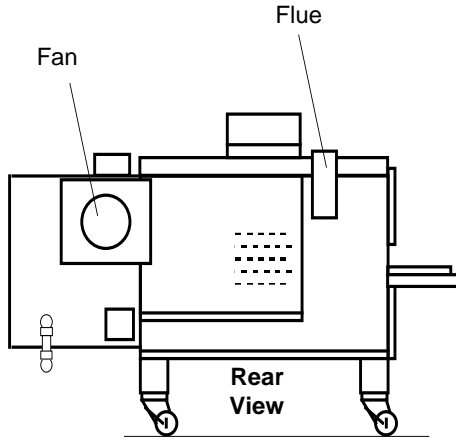

Figure 2-5. Single Oven Flue Installation
A. Install the control boxes, wireway and cables as shown in Figure 2-5.